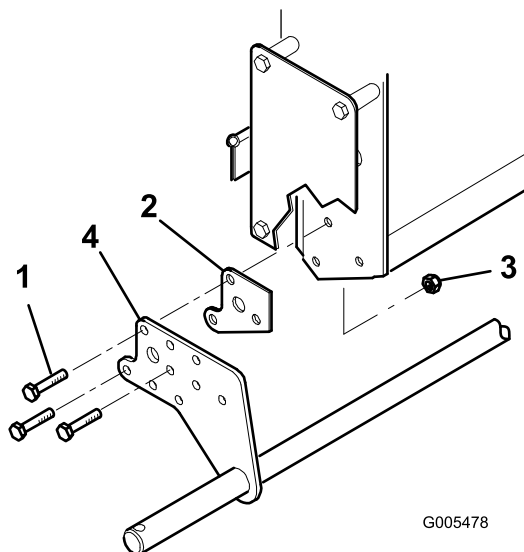

Figure 9
2. Position the axle mounting brackets on both sides of the machine frame (Figure 9).
3. Insert the large spacers between the axle mounting brackets and the frame, lining up the holes (Figure 9).